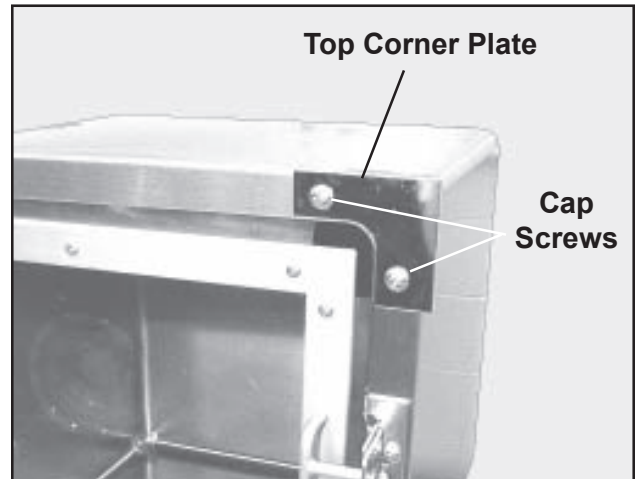

Figure 18. Typical Top Corner Plate
1. With a Phillips screwdriver, remove the two cap screws holding the corner plate to the cage and remove the plate (Figure 18).